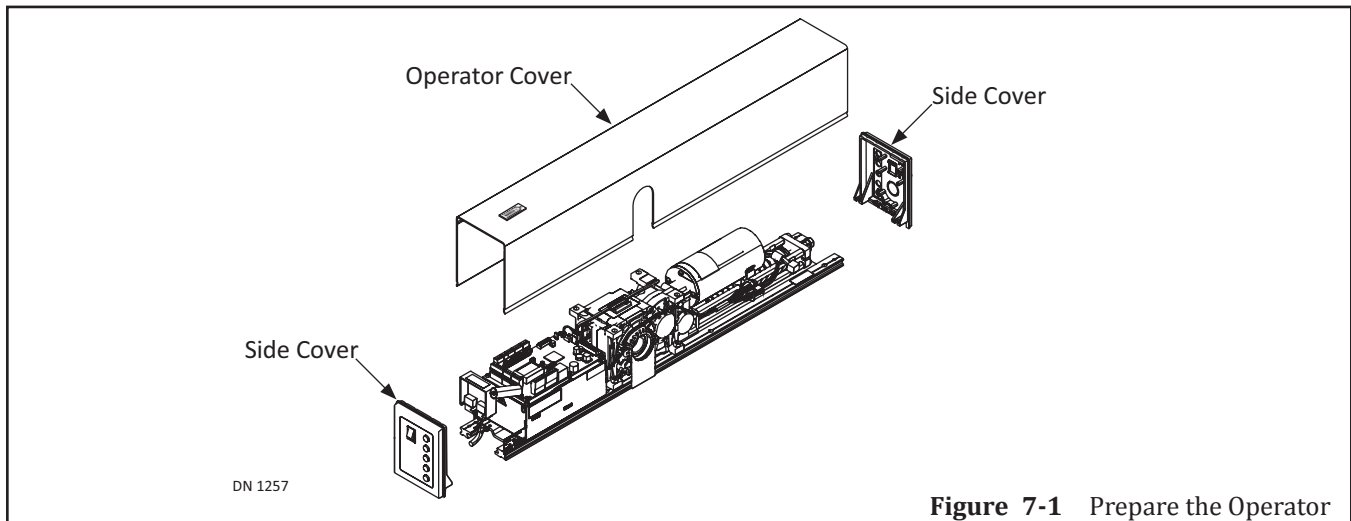

Figure 7-1 Prepare the Operator
2. Lift up and remove the Cover. Set aside. Please see Figure 7-1.